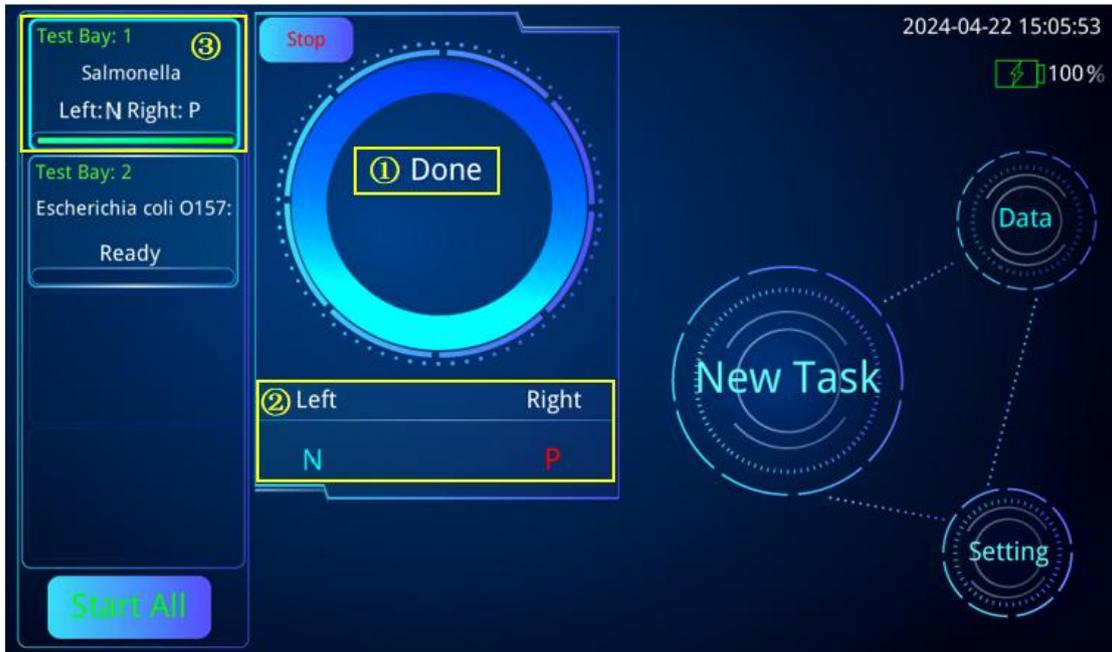

Figure 16 Main Page (Test Done)
After another “Beep”, the status of the selected task in the middle Time Circle will automatically change to “Done”, indicating that the testing is completed (Figure 16 ①). The
results will be shown under the middle Time Circle, displaying “P” or “N” under “Left” or “Right” (Figure 16 ②), respectively, indicating the results for the Left Lane and Right Lane of the Test Card (Figure 16 ③). “P” means Positive; “N” means Negative.
You can view the results of the selected task both under the middle Time Circle (Figure 16 ②) and in its Status Box in the Taskbar on the left of the screen (Figure 16 ③) when the test is completed.